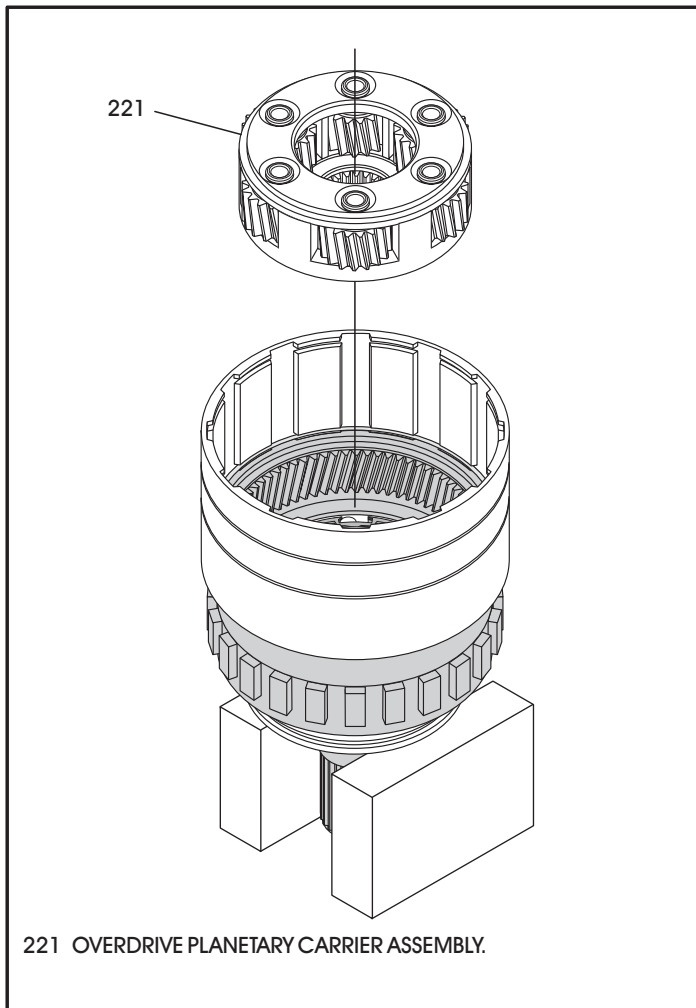

Figure 161
28. Remove overdrive planetary carrier, as shown in Figure 161.